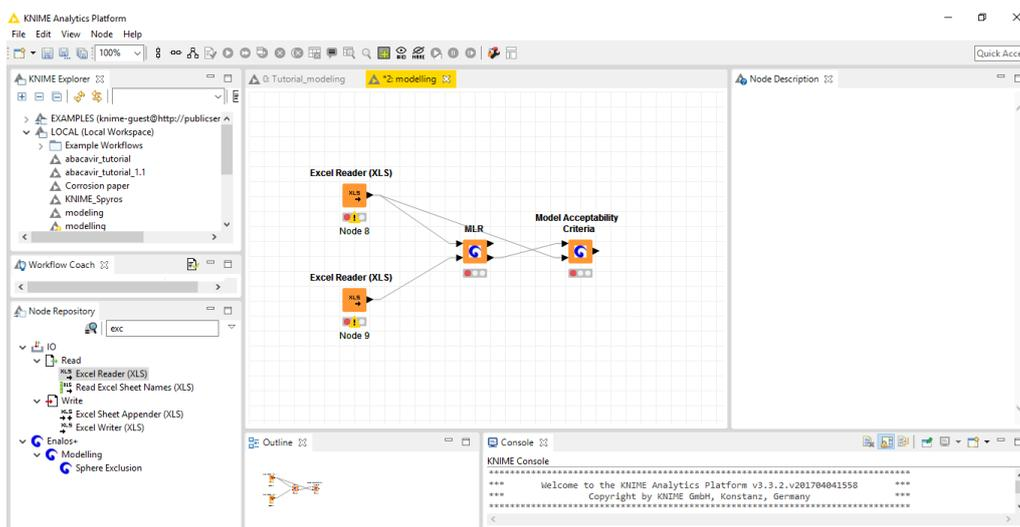
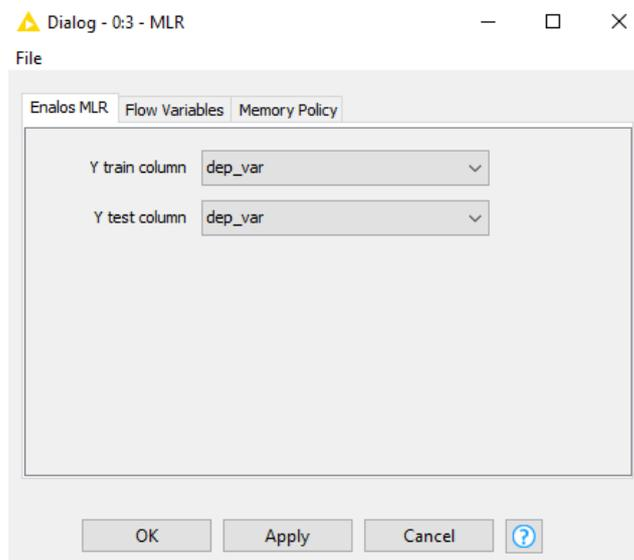

Fig. 5: Connecting nodes
Fig. 7: Configuring *MLR* node
Now, you need to connect the nodes, in order to get the data flowing. Click an output port and drag the connection to an appropriate input port. Complete the flow as pictured below (Fig. 5). *MLR* node takes in the 1st input port the “training set” data and in the 2nd input port the “test set” data. *Model Acceptability Criteria* node takes as 1st input a table containing values for the dependent variable, predicted by the model (ypred) and the dependent variable for the test set (yexp), and as 2nd input values for the dependent variable for the training set (ytr). The nodes will not show a green status as long as they are not yet configured and executed.
Then, configure *MLR* node by choosing a “Y train column” and a “Y test column” (Fig. 7). In Fig. 7 “dep_var” is the depended variable (Y). Press “Apply” and “OK” to exit the dialog of the *MLR* node.
Then, add, connect, configure and execute *MLR* and *Model Acceptability Criteria* nodes in the same way as before (see Fig. 4, Fig. 5, Fig. 7, Fig. 8). The new, converted results of the *MLR* and *Model Acceptability Criteria* nodes are depicted in Fig. 19, Fig. 20, Fig. 21, Fig. 22.